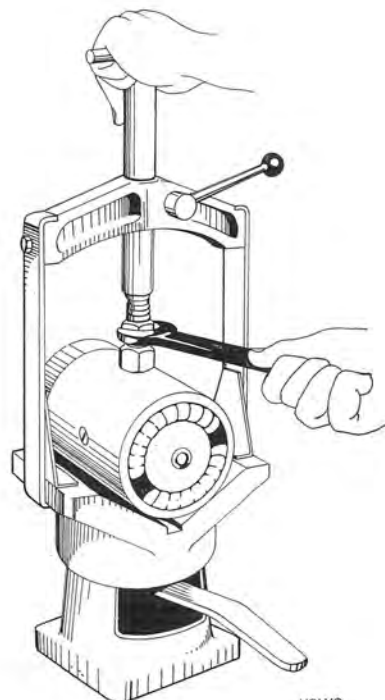

Fig. 3-42. Rotary clamping block for removing field windings
3. Then place the stator in the rotary clamping block as shown in Fig. 3-42 (Bosch EFAW 9) or similar and unscrew the pole screws.